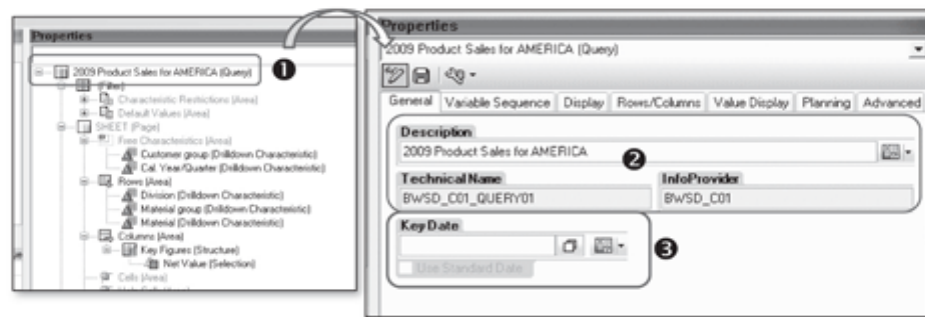

Figure 9.77 Query Properties – General Tab
Different properties that are defined at the query level are discussed in this section. To display the query properties, select the query node from the dropdown available in the Properties screen area (❶ of Figure 9.77).
The General tab of query properties displays the technical name and allows you to maintain the description of the query (❷ of Figure 9.77). This description is visible to the report user when the query is executed. You can also use text variables for flexible query description.
If the query involves any time-dependent master data, then the date specified in the Key Date field is used to derive the values from the time-dependent data (❸ of Figure 9.77). You can maintain any specific date as a key date in the query, or you can use a characteristic variable on the date as a more flexible option. If nothing is included in the Key Date settings for a query, then the date of query execution is considered as the key date for that query.